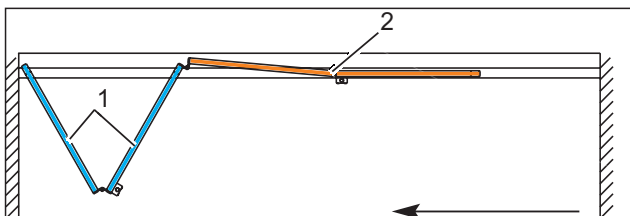
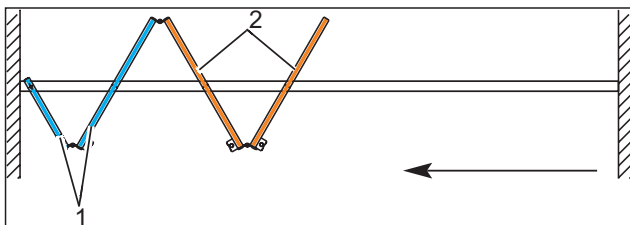

Fig. 12 Opening the inside panel pair – FSW EASY Safe
Fig. 13 Opening the panel – FSW EASY Safe-C/-C-Plus
1. Carefully fold the inside panel pair (Fig. 12/1 or Fig. 13/1).
2. When folding the FSW EASY Safe version, ensure that the outside panel pair (Fig. 12/2) remains straight in the system configuration, until the inner panel pair is fully folded together. For the FSW EASY Safe-C/-C-Plus variant, folding the inside panel pair (Fig. 13/1) also folds the outside panel pair (Fig. 13/2). Hold the panels steady when sliding.